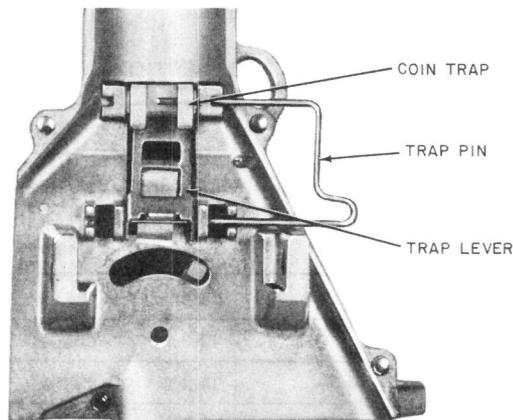

Fig. 42—Placing Coin Trap in Hopper
- (2) Insert coin trap in hopper and engage pin in trap (Fig. 42).